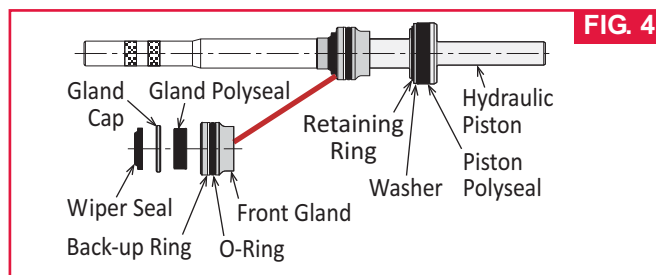

FIG. 4
19. (Fig. 4) Push Hydraulic Piston and front gland assemblies out the back of the Handle/Head.
23. (Fig. 4) Remove Retaining Ring, Washer and Polyseal from Hydraulic Piston. **NOTE: Inspect Hydraulic Piston for wear, scoring or damage. Replace when necessary.**